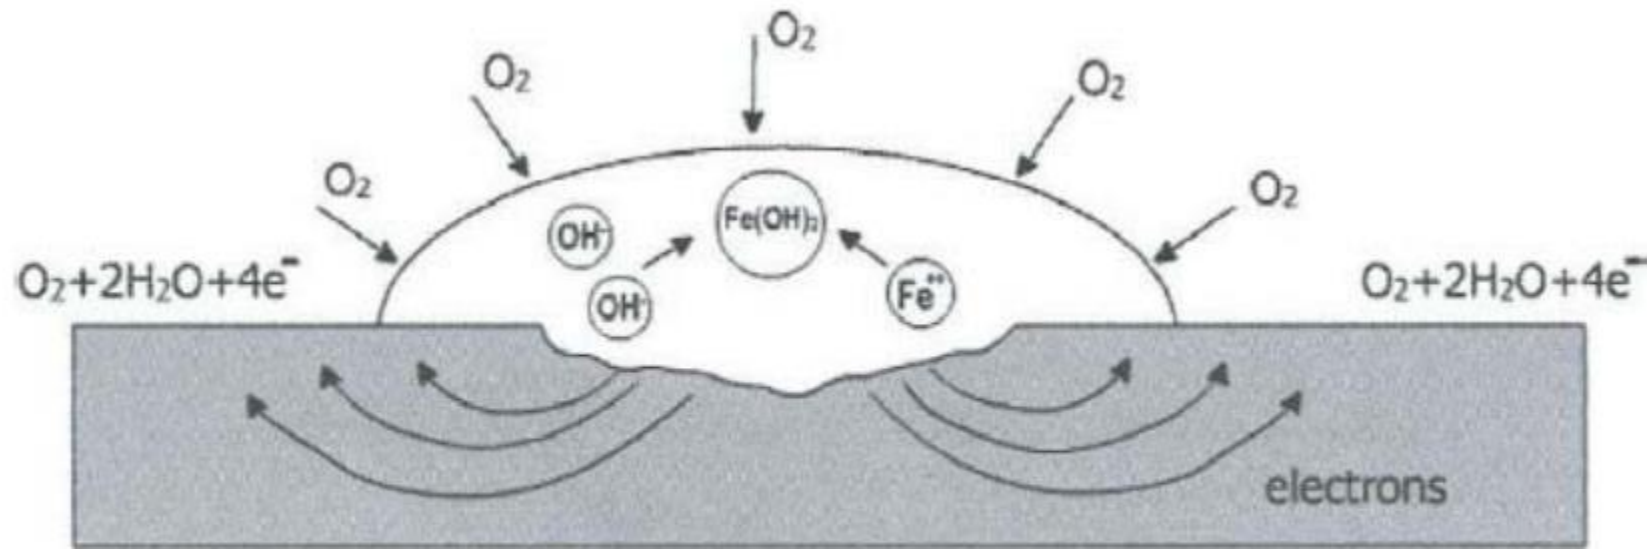

Figure 8 Formation of rust in seawater.
- **Fe²⁺ ions** are released from the **anode** by **oxidation** and **OH⁻ ions** from the **cathode** by **reduction** on the metal surface (see Fig. 8).